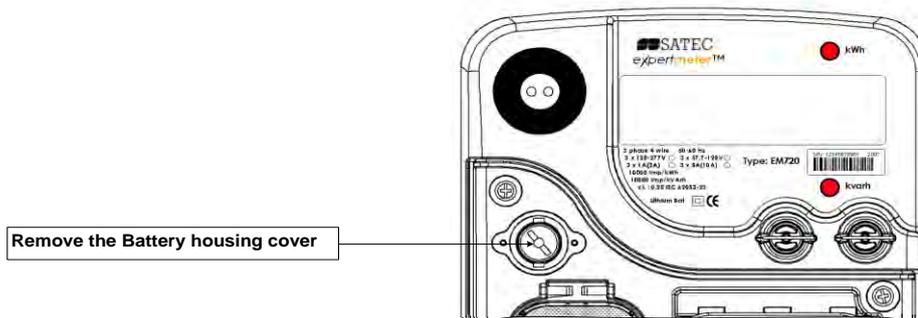

Figure 28: Battery Housing cover removing
2. Use a flat screwdriver to open the battery housing cover, as in figure 28, turning counter-clockwise and remove the battery,